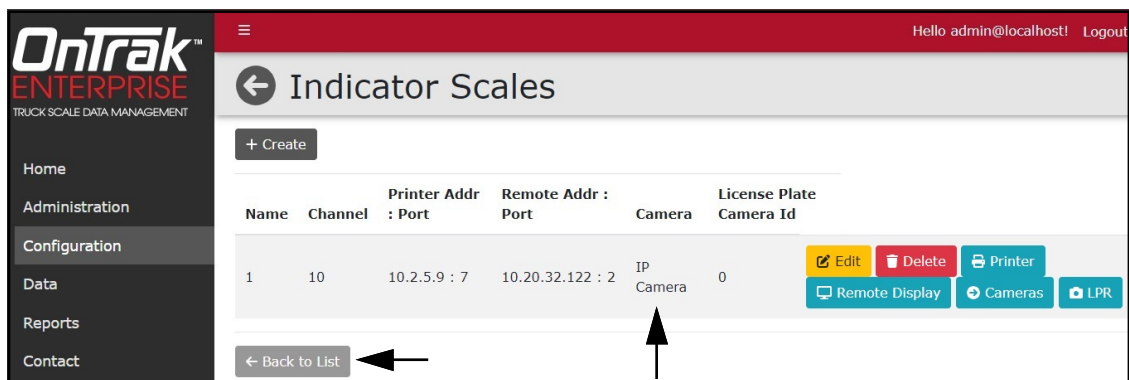

Figure 6-20. Indicator Scales with Camera Information
7. The Indicator Scales page displays with the camera added (see Figure 6-20 on page 76).